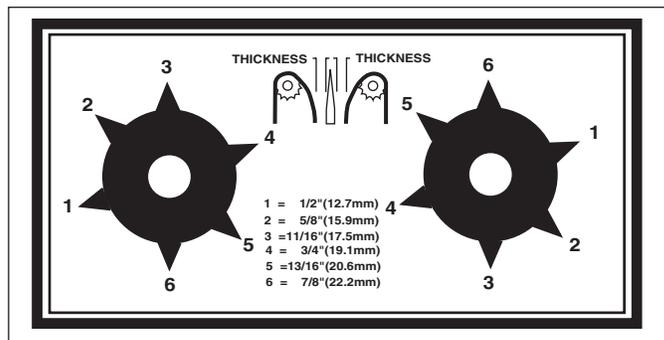

Figure 6. Bun Thickness Adjustment Controls
1. Set the bun adjustment controls (Figure 6) to the desired settings.
Bun adjustment controls set incorrectly.	Measure bun thickness and set bun adjustment controls correctly (Fig. 6, page 9).